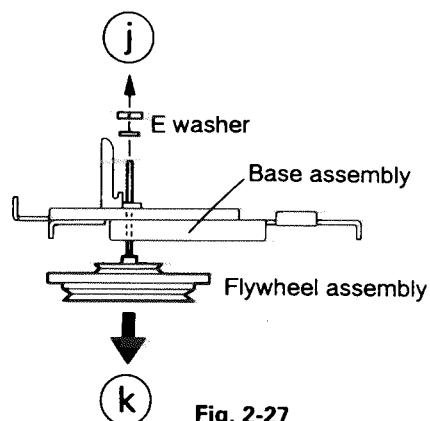

Fig. 2-27
■ Flywheel assembly (Fig. 2-27)
1. E. washer retaining the flywheel assembly in the direction of arrow ⑩.
2. Pull the flywheel assembly out of the back side of the cassette mechanism in the direction of the arrow ⑪.